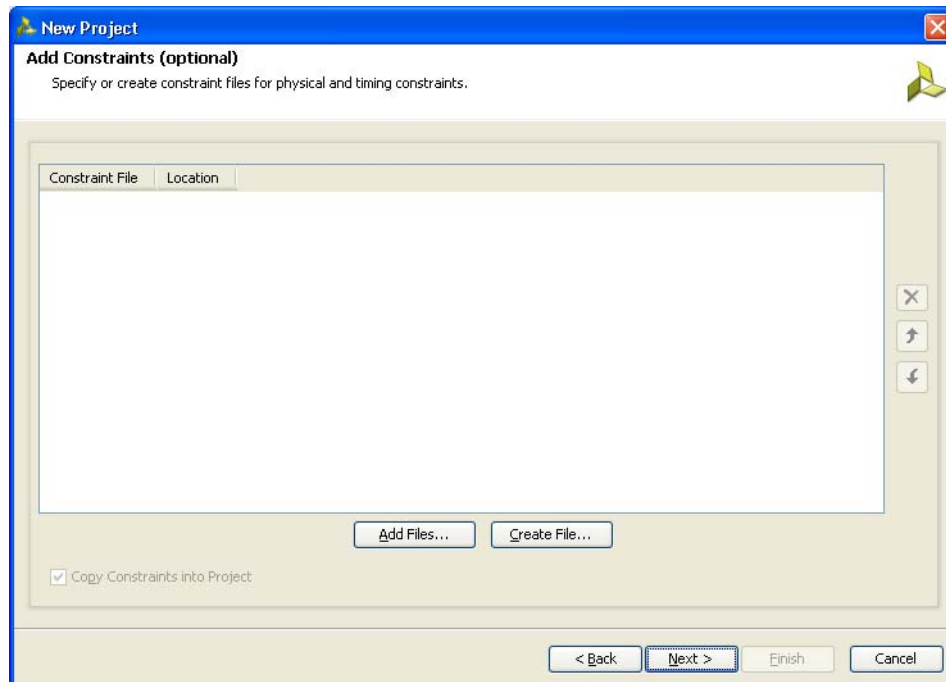

Figure 4-7: Add Constraints (Optional)
7. Click **Next** to open the **Add Constraints (Optional)** page (Figure 4-7). If the constraints file exists in the repository, it can be added to the project. Proceed to the next page if the constraints file does not exist.